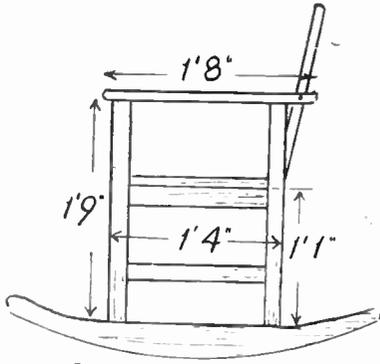
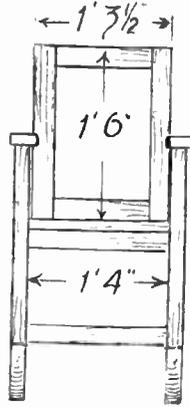
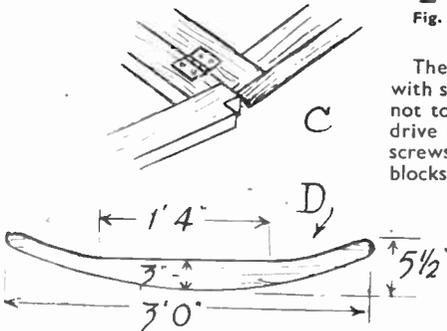

Fig. 1—Side view of main parts
Fig. 2—Front view of chair
Fig. 5—The rocker and back hinging
Fig. 1 is a side view of the chair, and Fig. 2 a front view, giving the necessary dimensions. Any other measurements necessary can be taken as the work progresses, or will be found in the text. A cutting list at the end of the article is added, as a help to ordering the wood.
The arm rests are cut to length given in Fig. 1 from 1 in. by 2 in. wood. Note that these are to be fitted on the top of
The back frame is seen in Figs. 1 and 2, and is similarly made up as the seat frame, from 1in. by 2in. wood. Readers who do not mind a little extra trouble can well joint both frames together with mortise and tenon joints and make a more professional looking article. This back frame is then hinged to the seat frame, after the latter is fitted in place, with 2in. iron butt hinges, as at (C), Fig. 5.
To complete the woodwork part of the job, only the rockers are now required. These are detailed more clearly at (D) in Fig. 5. They are cut from wood 1 1/2ins. to 1 3/4ins. thick, and 5 1/2ins. long. First, from the centre part of the top edge, cut out a piece 1ft. 4ins. long, and 2 1/2ins. deep, then from there, each side, shape up to the ends.